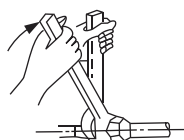

Fig.5-4
- Tighten it with a spanner and torque wrench (Refer to Fig.5-4)
- When connecting the refrigerant pipes, always use two wrenches/spanners to tighten or loosen the nuts! (Refer to Fig.5-4) Otherwise, it will cause damage of piping connections and leakage.